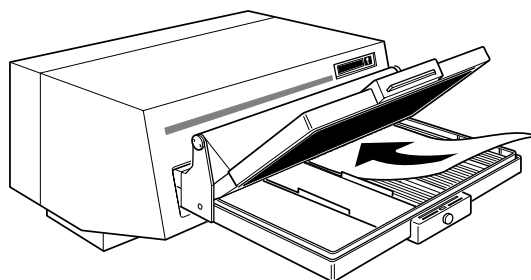

Figure 10 - Inserting films in the floptop magazine
2. Sort the films according to their sizes. Insert the stack of films into the magazine as far as they will go (fig. 10).